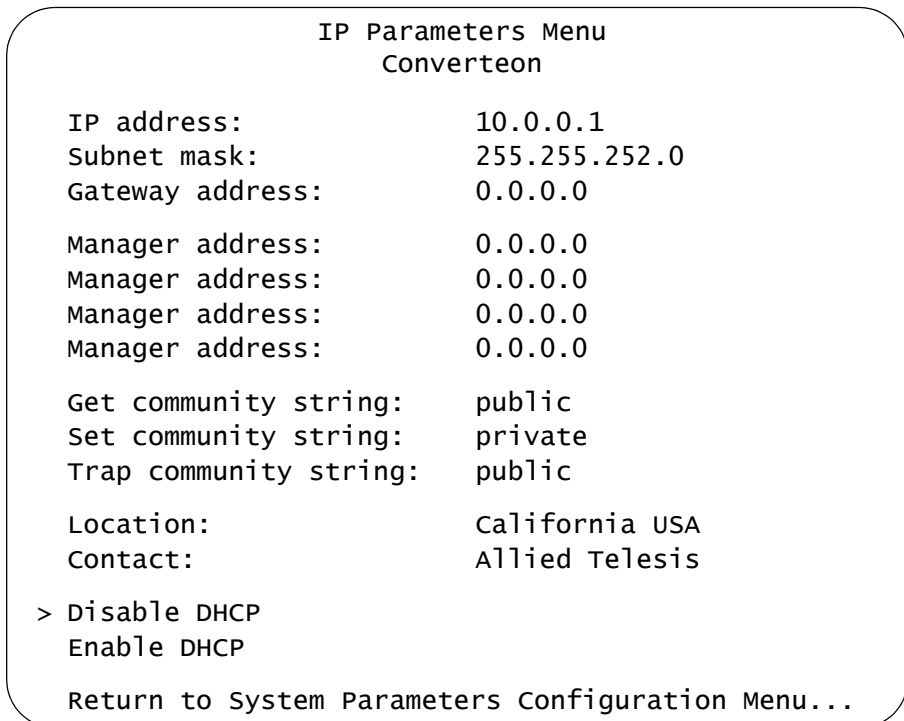

Figure 29. IP Parameters Menu
4. From the System Configuration Menu, select **IP Parameters** to display the menu in Figure 29.
4. Select **IP Parameters** to display the menu in Figure 29 on page 101.